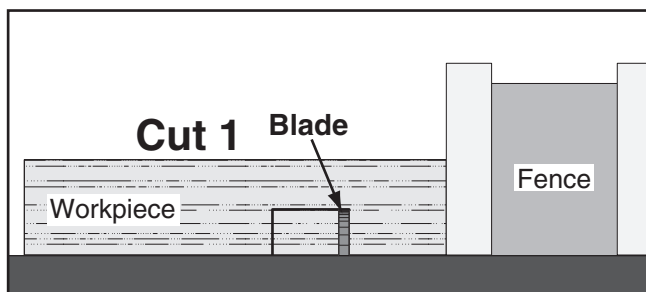

Figure 47. First cut for a single-blade dado.
- Align blade to cut one side of dado, as shown in **Figure 47**.